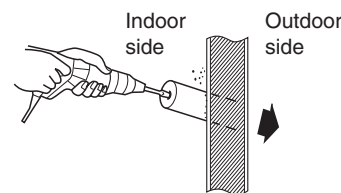

Fig. 1-61
- If the tubing and wiring are to go towards the rear of the unit, make holes in the wall. (Fig. 1-61)